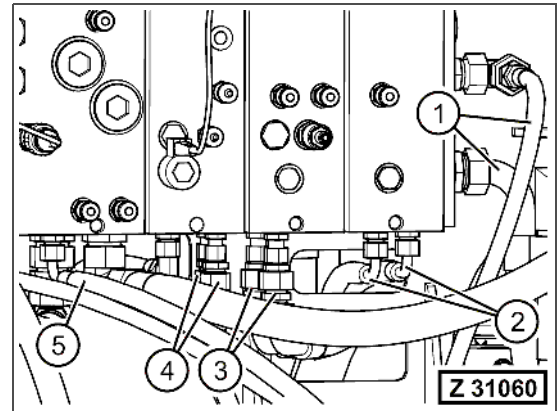

Fig. 3-161
1. First disconnect the hydraulic hoses (Fig. 3-161, Pos. 1, 4) from the control block base plate and then the hoses (Fig. 3-161, Pos. 2, 3 and 5) from the control blocks.